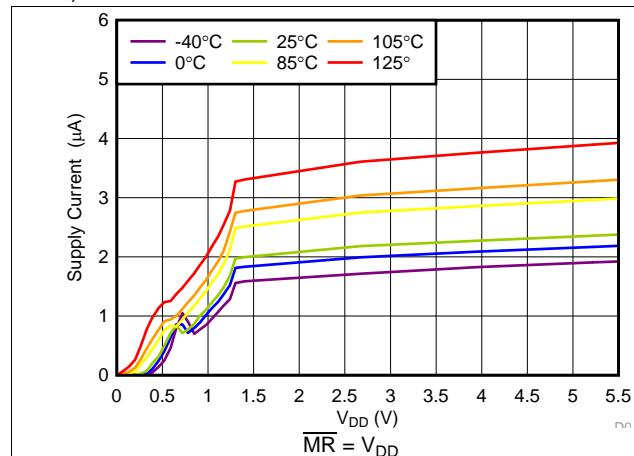
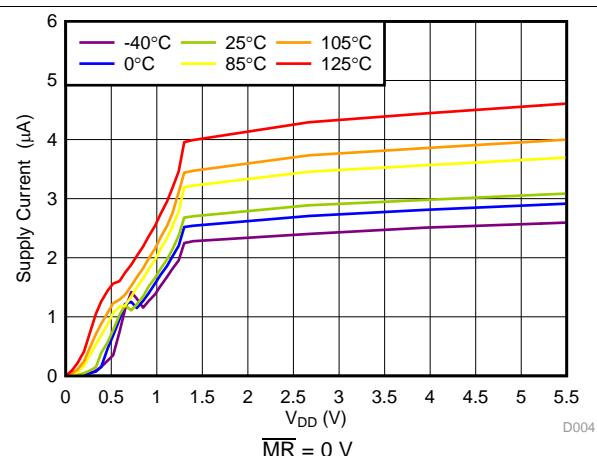

图 8. Supply Current vs Power-Supply Voltage
图 9. Supply Current vs Power-Supply Voltage
The manual reset (MR) input allows a processor or other logic circuits to initiate a reset. A logic low on MR causes RESET to assert. After MR returns to a logic high and SENSE is above V_{ITP} , RESET is deasserted after the user-defined reset delay. If MR is not controlled externally, then MR must be connected to V_{DD} . Note that if the logic signal driving MR is not greater than or equal to V_{DD} , then some additional current flows into V_{DD} and out of MR and the difference is apparent when comparing 图 8 and 图 9.